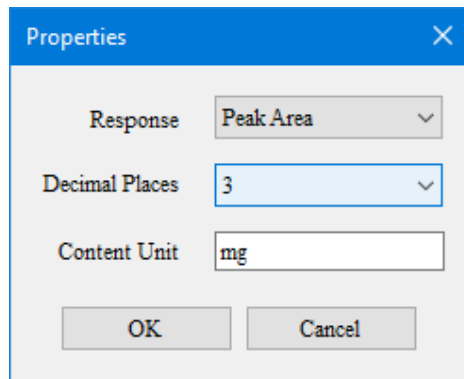

Figure 7-3 Calibration settings window
- Open the calibration window and click the  icon to start setting the calibration options, as shown in Figure 7-3. The user can set the response unit and decimal places, etc.